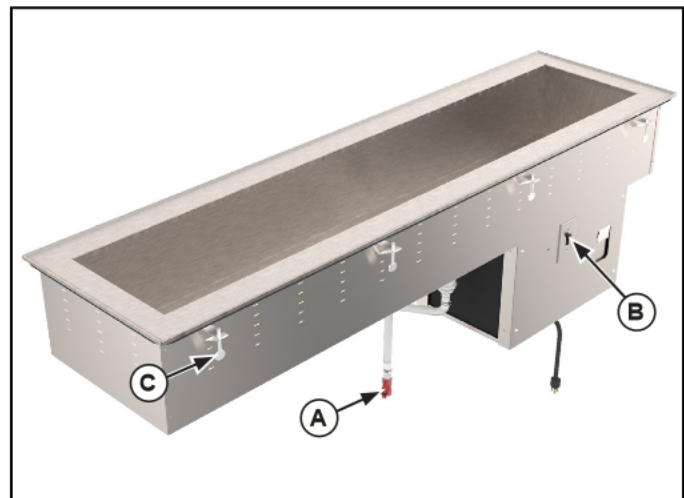

Figure 1. Features and Controls.
5. Tighten the thumbscrews (C) slowly and in an alternating pattern to evenly compress the gasket. See Figure 1. The gasket should create a even gap between the well and the mounting surface.
1. Check the drain valve (A) to verify it is in the CLOSED position to prevent water from draining out. See Figure 1. The valve is in the CLOSED position when the handle of the valve forms a "T" with the body of the valve.
3. Turn the power switch (B) to the "ON" position. This unit does not have an adjustable temperature setting. Allow the unit to run for approximately 30 minutes. For the best performance when using ice with this unit, allow unit to run for approximately 2 hours before adding ice. This will help the ice remain solid.